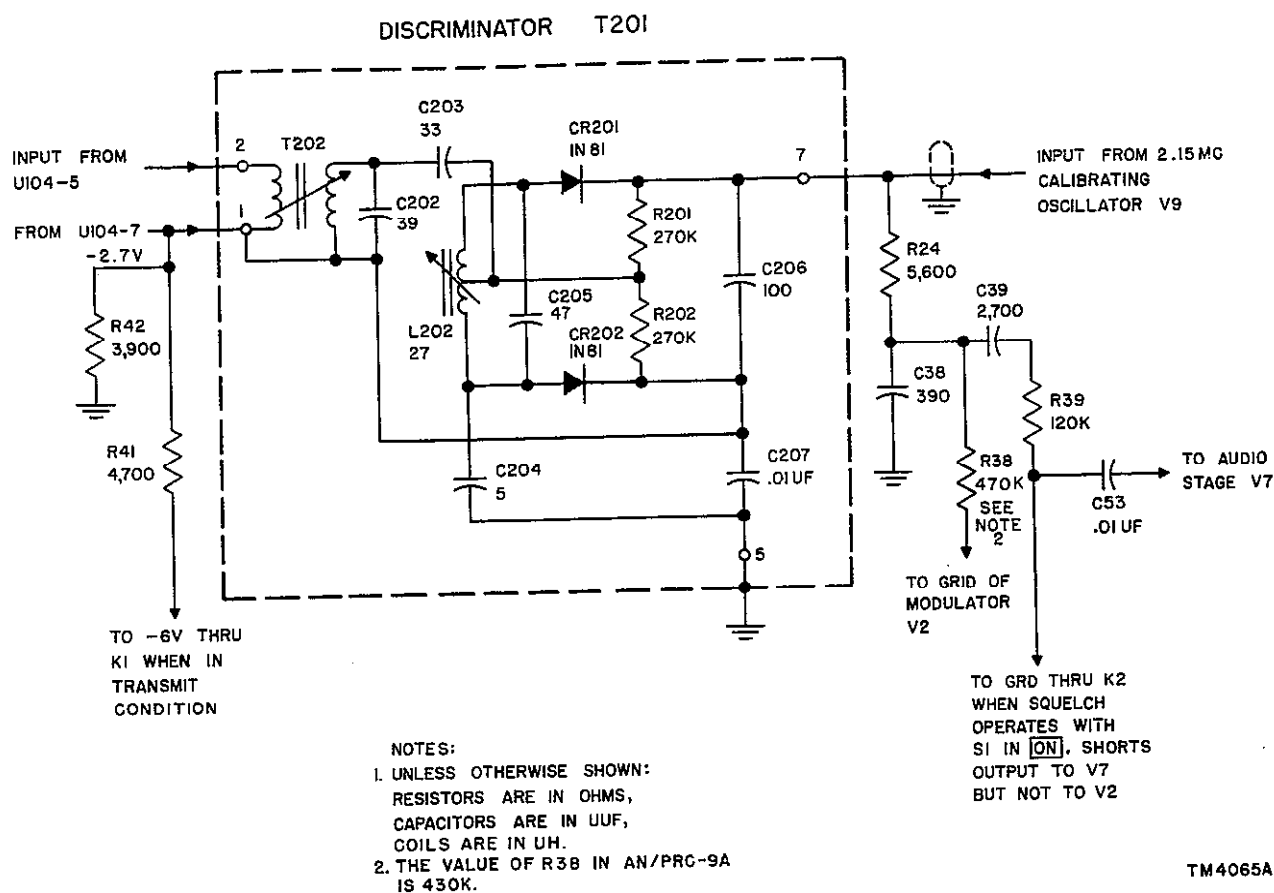

Figure 11. Discriminator T201, schematic diagram.
b. *Circuit Arrangement.* The input to the discriminator is applied across transformer T202 (fig. 11). The secondary of this transformer in series with capacitor C202 is resonant at the intermediate frequency; thus maximum voltage develops across capacitor C202. The voltage across capacitor C202 is fed through coupling capacitor C203 to the center tap of coil L202. Capacitor